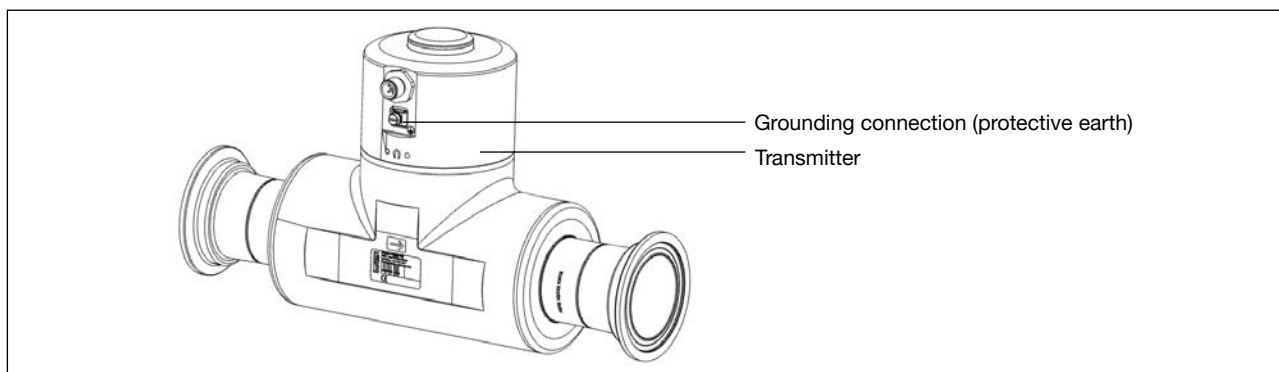

Figure 20: Grounding connection
- For a proper function of device always connect the yellow/green conductor to the grounding connection on the outer surface of the transmitter housing (see Figure 20).